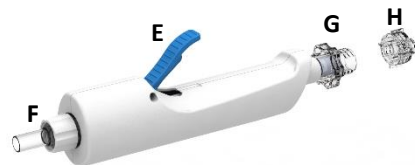

Figure 2: Handpiece
The CLEANER Vac™ 18F Aspiration Catheter with Handpiece consists of a Handpiece (Figure 2) with Aspiration Control Lever (E), connection to the Aspiration Catheter (F), and connection to the aspiration tubing (G) as well as a Flushing Adapter (H).